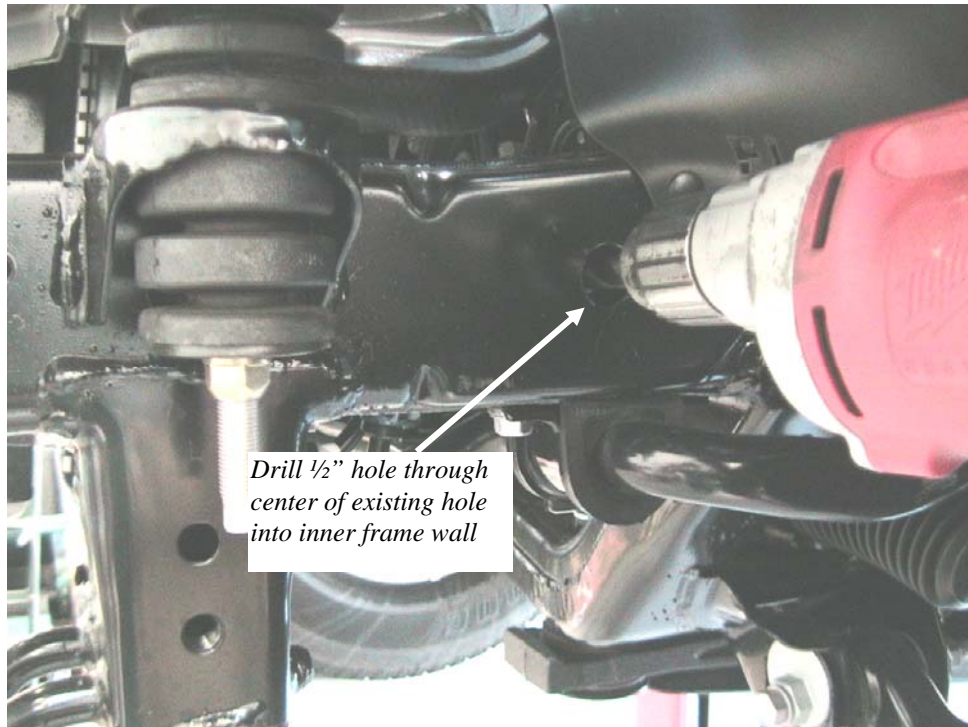

Figure 13 Outside left frame rail
12. Locate the 1" hole in the side of the frame behind the body mount. Drill a 1/2" hole through the center into the inner wall. The Spacer Tube may be used as a centering tool. Repeat for opposite side. **Figure 13**